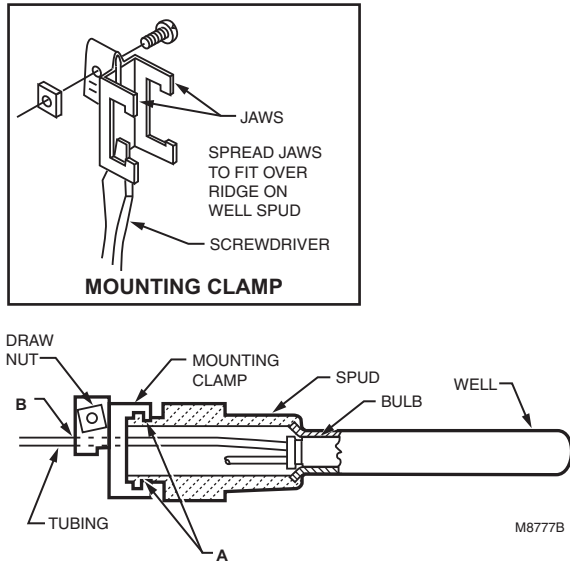
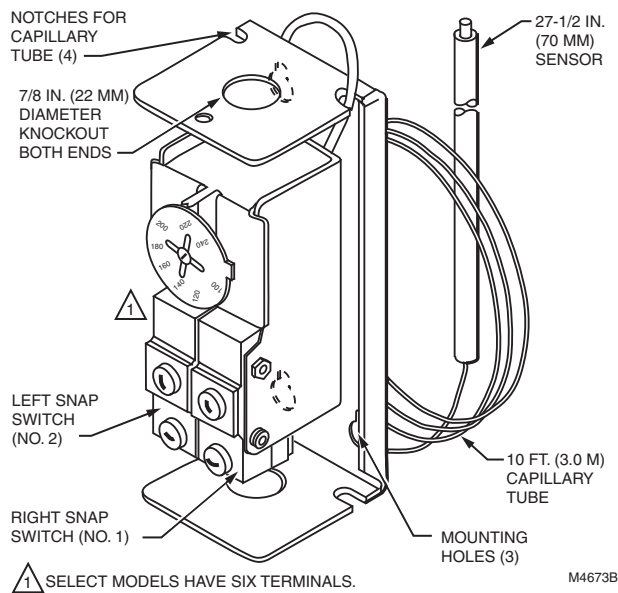
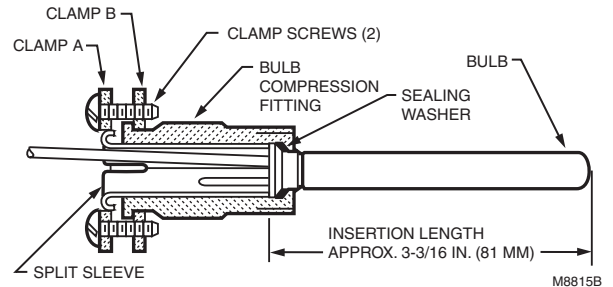
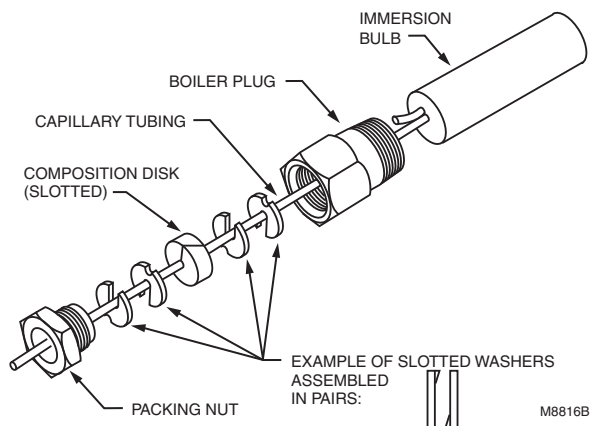

Fig. 8. Immersion well fitting.
Fig. 9. Internal view of L4008L or L6008G.
Fig. 10. Bulb compression fitting.
Fig. 11. Capillary compression fitting. Use with L4008.
The remote temperature-sensing bulb can either be installed in an immersion well (Fig. 8) that extends into the boiler or tank, or it can be directly immersed in the controlled medium. See Fig. 9. For installations that do not use a well, secure the remote bulb with a bulb compression fitting (Fig. 10), or capillary compression fitting (Fig. 11).
Order well, well adapter, bulb compression fitting or capillary compression fitting separately. See form 68-0040, Wells and Fittings for Temperature Controllers. If used, well must snugly fit sensing bulb for the best thermal response. Insert bulb until it rests against the bottom of the well. Hold it there while tightening the tubing clamp. See Fig. 8.
3. Attach the retainer clamp to the end of the well spud. Loosen the draw nut and spread the jaws of the clamp with the screwdriver if necessary. See Fig. 8.
4. With the retainer clamp attached to the well spud (be sure the jaws of the clamp hook over the ridge at the end of the spud, as shown at points A in Fig. 8), adjust the tubing to fit through the retainer clamp groove, as shown at point B (Fig. 8).
4. Slide the split sleeve into the fitting. See Fig. 10.
4. Place the composition disk and four slotted brass washers on the tubing in the order shown in Fig. 11. Turn the brass washers so the slots are 180 degrees apart.